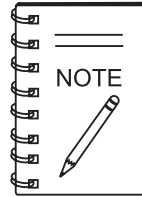

**Figure 4. Engine Oil Dipstick**
2. Remove the filler cap/dipstick from the engine oil filler hole (Figure 4) and wipe it clean.